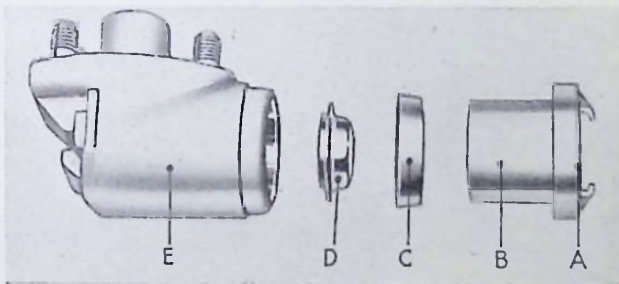

Fig. 1. Front Cylinder Exploded.
Each wheel cylinder, see Figs. 1 and 2, consists of a casting (E) containing a piston (B) fitted with a cover (A) and backed by a rubber cup (C). The space in front of the rubber cup is partially occupied by a cup filler (D). For description of the type of wheel cylinder fitted on later productions see Page HY10.